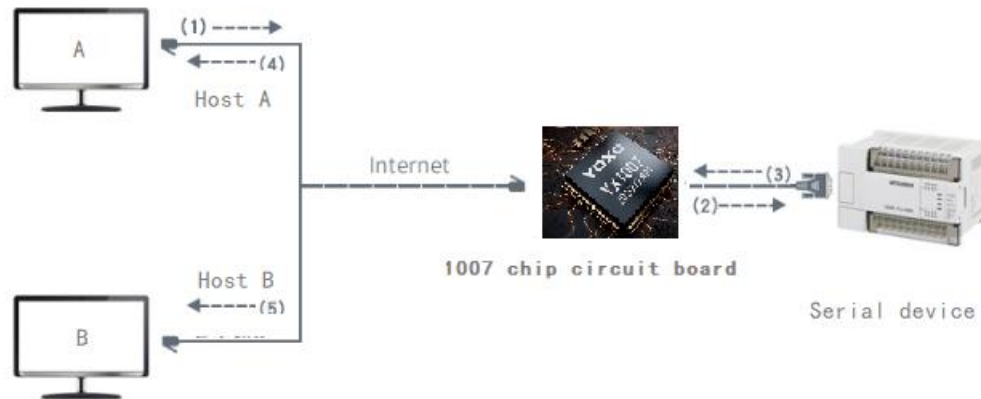

Figure 44 Multi-host function demonstration
As shown in Figure 44, in ordinary mode, when two hosts: host A and host B are connected to the serial port server at the same time, host A sends (1) instruction, the RS485 device receives (2) instruction, and the RS485 device returns (3) instruction, but the port end of the serial port server sends (4) to host A and (5) to host B at the same time. Because host B did not send the query, but it also received the reply instruction (5), host B may generate a communication exception error. In multi-host mode, there will be only instructions (4) and no instructions (5), because the serial server will automatically remember the host that needs to be returned, and only the command will be returned to the most recent communication host, host A queries will only reply to A, host B queries will reply to host B.
As shown in Figure 44, if the serial port device (RTU device) acts as the primary station and the network port device (Modbus TCP device) acts as the secondary station, there are multiple network port secondary devices at the same time. In this case, you can use the serial port server as a client to connect to multiple network ports. For details, see 5.2.2 Connecting a Client to Multiple Servers.